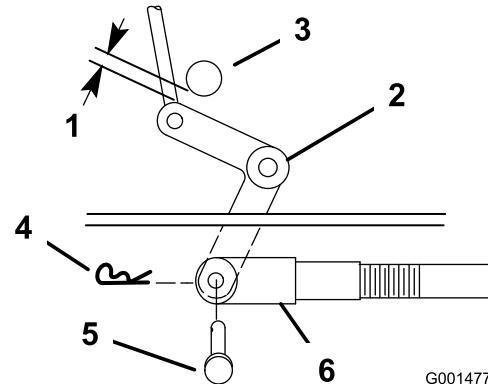
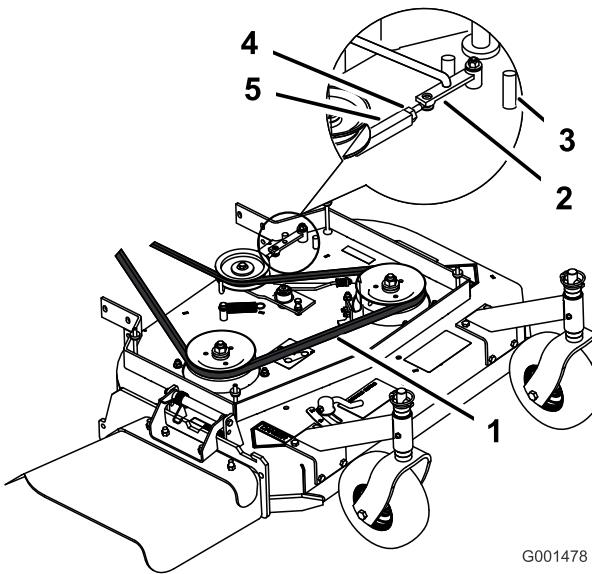
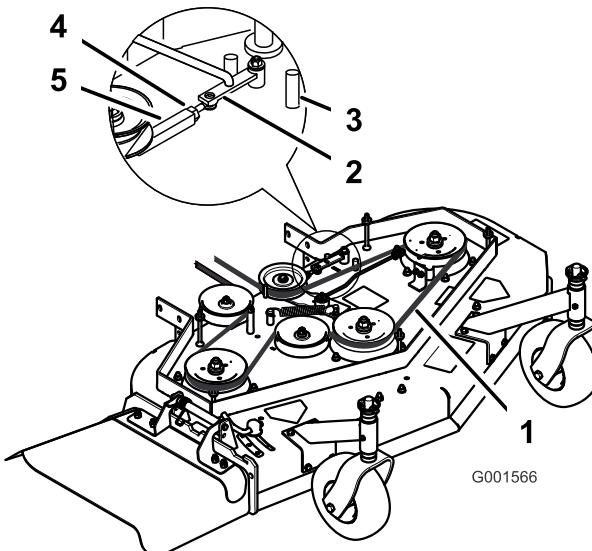

Figure 33
Figure 34
Figure 35
9. Check the clearance between the bell crank and the transmission output shaft (Figure 33).
11. Rotate the clevis clockwise on the rod to increase the clearance; rotate it counterclockwise to decrease it (Figure 33).
Note: If the assist arm does not contact the front stop on the mower deck (Figure 34 or Figure 35), adjust the clevis to bring the bell crank closer to the transmission output shaft (Figure 33).